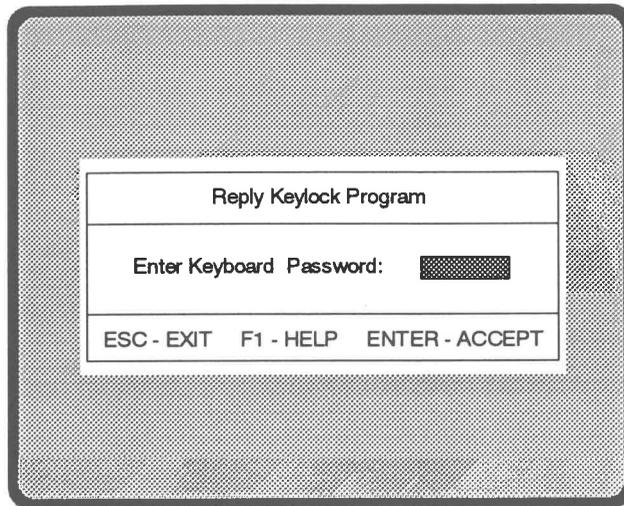

Figure 4-14 Keylock Program Window
3. If you have not set a power-on password, the **Keylock Program Window** appears (see Figure 4-14). Enter up to seven alphanumeric characters (any printable ASCII character).